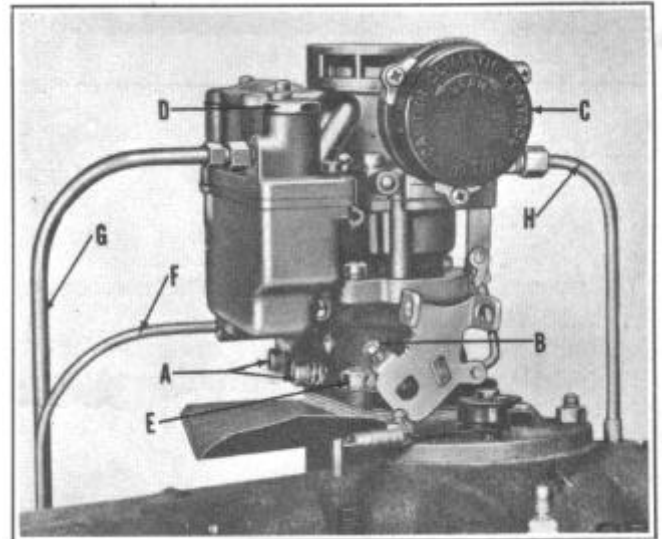

FIGURE 39
3. Set idle adjustment screws (A), Figure 39, to obtain smooth idle at 540 to 560 R.P.M. (If car is equipped with Hydra-Matic, set idle at 490-510 R.P.M.).